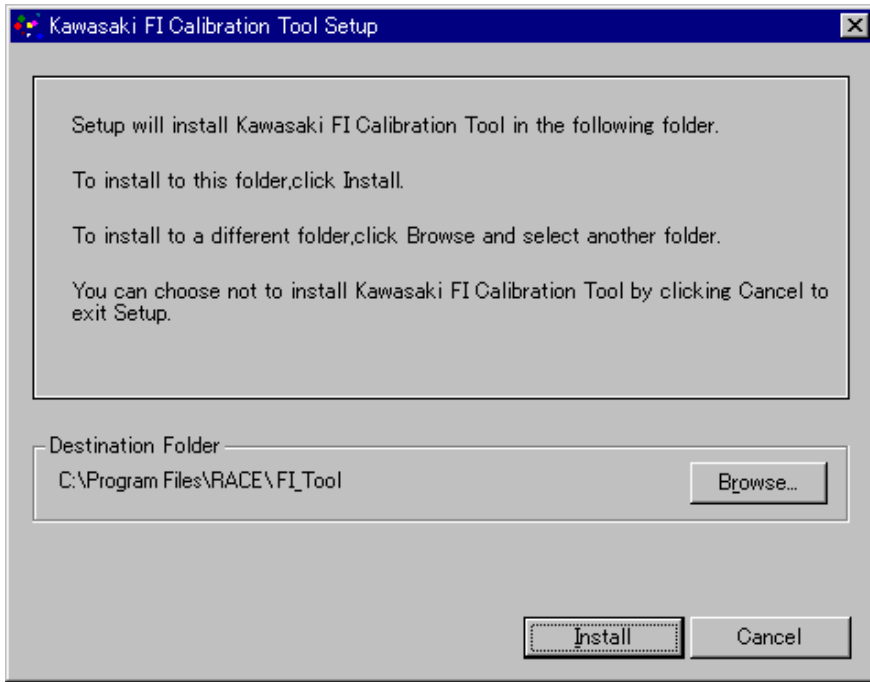

Fig. 6 Choosing Destination Folder
(5) The destination folder selection screen shown in Fig. 6.appears.